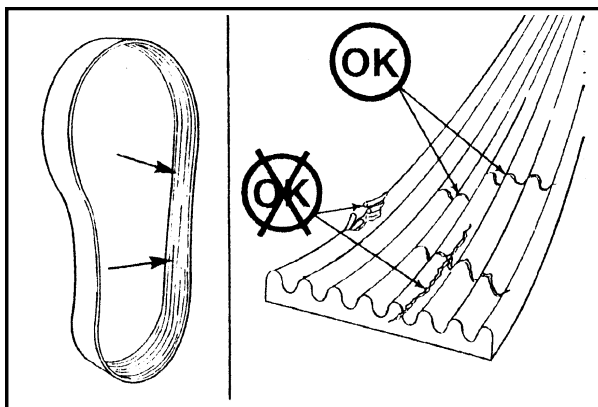

FIG 7.44
**INSPECTION** - Visually inspect the belt daily (fig. 7.44). Check the belt for intersecting cracks (fig. 7.44). Transverse (across the belt width) cracks are acceptable. Longitudinal (direction of the belt length) cracks that intersect with longitudinal cracks are not acceptable. Replace the belt if it is frayed or has peices of material missing.